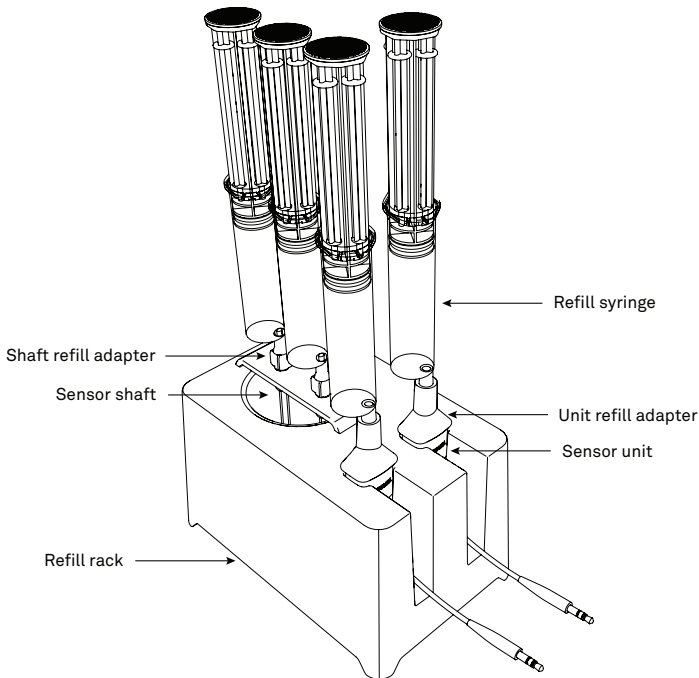

Figure 4 Refill unit and syringes with TEROS 31 sensors
14. Place the sensor unit in the notch of the refill unit (Figure 4).